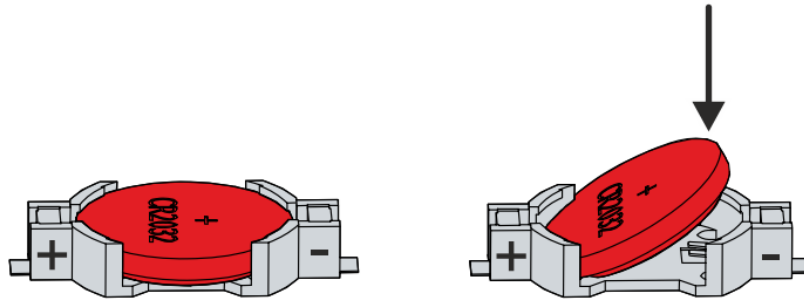

Figure 114. PLC Battery Change
3. Lift the battery side out of the holder. The battery is now in an inclined position as shown in **Figure 114**.
5. Insert the new battery with the correct polarity back into the inclined position on the positive pole of the battery holder. The correct polarity is shown in **Figure 114**.
6. Push the protruding side of the battery into the battery holder as shown in **Figure 114**.